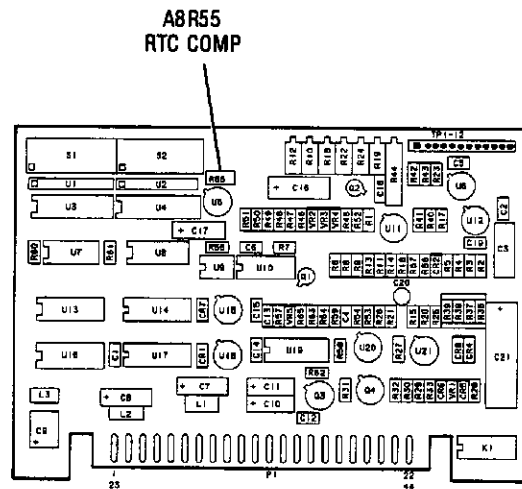

*Figure 5-13. YO Retrace Compensation Pulse*
5. Use the delayed sweep vernier to set the delayed part of the trace on the bandswitch point between Band 1 and Band 2 as shown in Figure 5-13.
7. Start with A8R55 (RTC COMP) fully clockwise, and adjust it for the widest and flattest pip while tracking the bandswitch frequency with the Frequency Meter. A well adjusted retrace compensation pulse is shown in Figure 5-13.